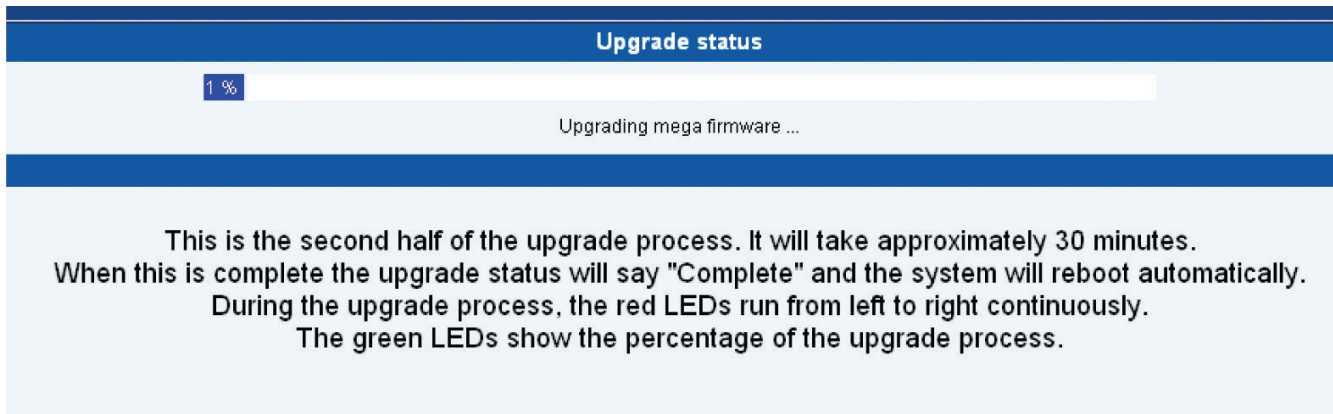

Figure 3-12. Upgrade status screen.
6. During the process, you will see the messages shown in Figure 3-12.